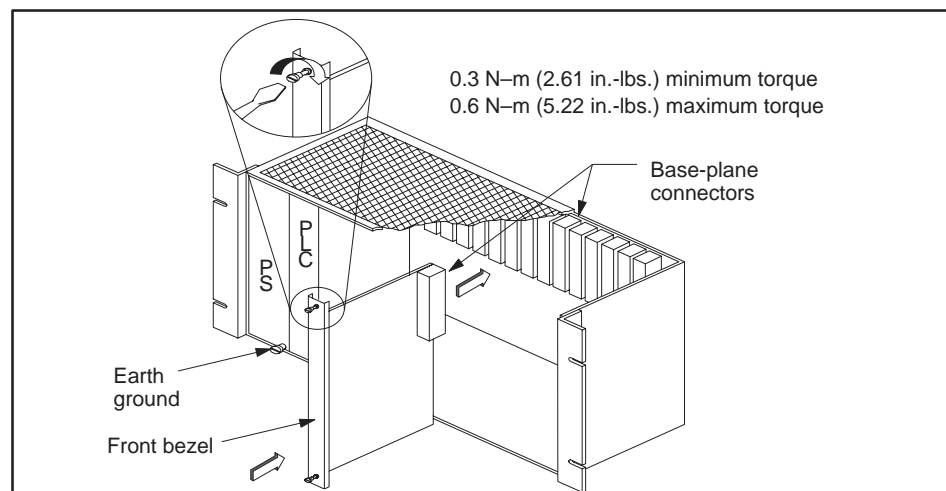

Figure 3-1 Inserting the Module into the Base
3. Hold the top and bottom of the bezel and slide the module carefully into the slot (or slots for double-wide modules), pushing it all the way into the base. You will feel a slight increase in resistance as the module connects with the base-plane connector. (See Figure 3-1).